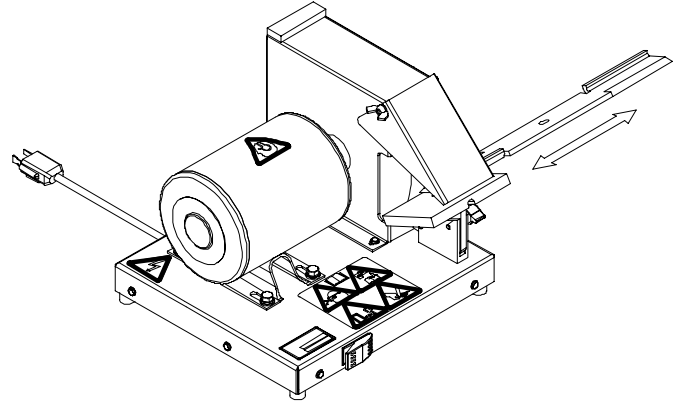

FIG. 5
- A. With the motor off, adjust the angle of the blade guide so the wheel surface is in contact with the rotary mower blade. See FIG. 5. Match the angle of the cutting edge whenever possible. The cutting edge angle should be approximately 30°. If it is not, adjust the blade guide until the desired bevel is achieved. Adjust the guide for minimum space between grinding wheel and guide.
- C. Holding the blade firmly, move the blade from the center to the outside end in a smooth, even motion until the blade is sharp. See FIG. 5.
Rotary mower cutting blades with the cutting edge at an angle to the body of the blade and "S" style blades must be ground by holding the blade in the same way as shown in FIG. 5 except the blade must be held at an angle to the grinding wheel. This will permit the cutting edge of the blade to be at a right angle to the grinding wheel. By maintaining this angle and by moving the blade from center to the outside end, a uniform cutting edge will be ground.